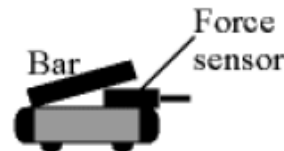

Figure 3: Mounting a bar mass on the cart.
6. Record data for the different situations specified in Part I of the Report Sheet provided to you separately. In situations requiring one cart to be heavier than the other, mount a bar mass on the cart to make it heavier (see Figure 3). Before each trial, and with no force applied to either sensor, you should click “Zero”, and then “Zero all sensors” to zero both sensors. Investigate cases, if any, where you predicted that the forces on the two carts would have the same magnitude and cases, if any, where you predicted that the forces would have different magnitudes.